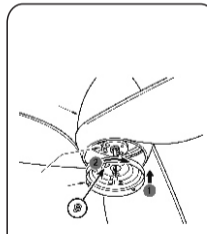

Fig.21
Step 2: Slide the light kit plate up towards the light kit adapter and place the key holes over the screws on the light kit adapter. Turn light kit plate until it locks in place at the narrow section of key holes. (Fig. 21)